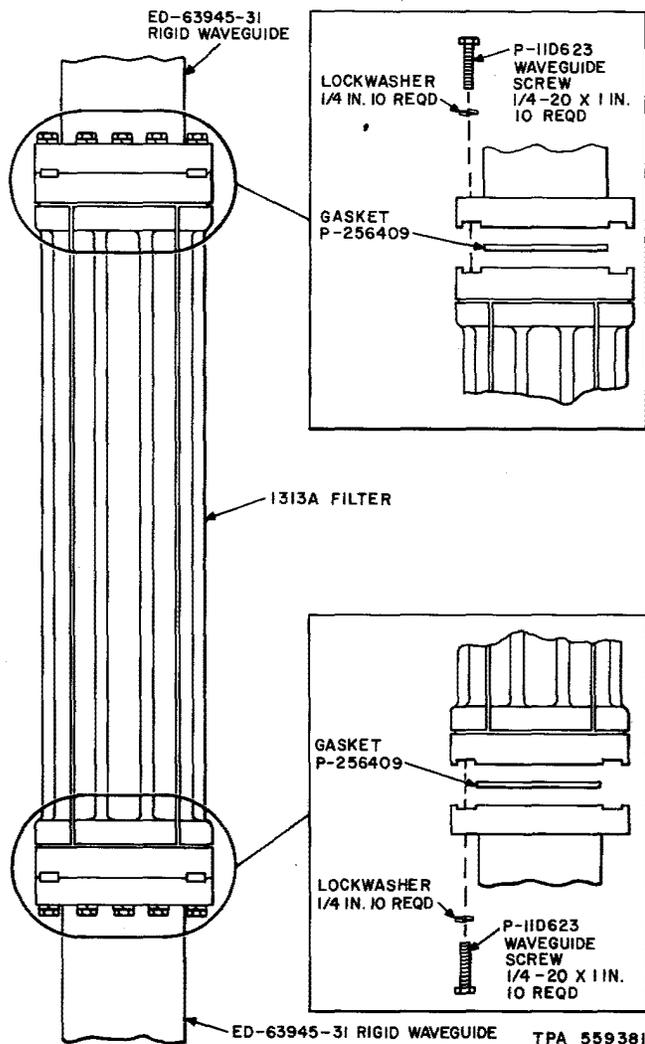

Fig. 2—Installation of 1313A Filter
2.06 Attach the top flange of the 1313A filter to the bottom flange of the rigid waveguide (ED-63945-31) previously attached to the hanger plate. Attach the bottom flange of the 1313A filter to the next vertical waveguide section required, as shown in Fig. 2. Use the gaskets, waveguide screws, and lockwashers supplied with the filter.